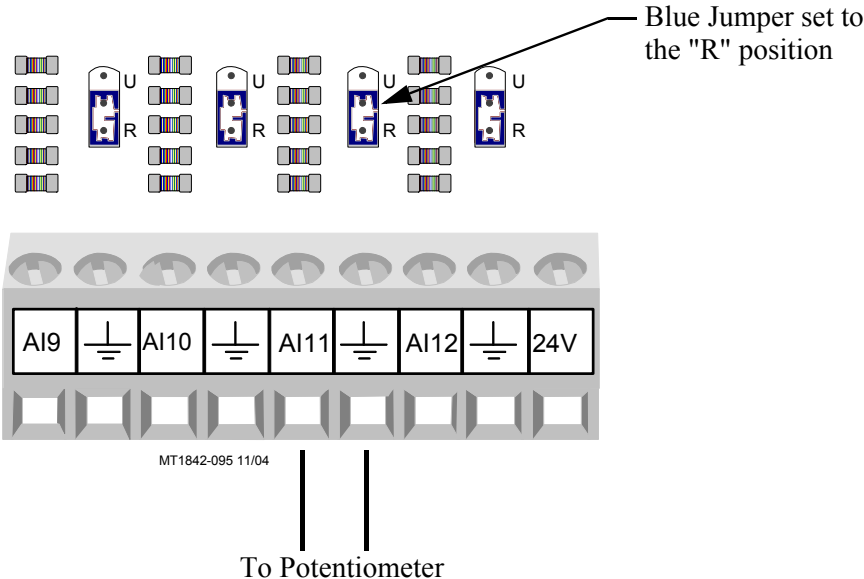

Figure 89. Potentiometer Wiring
If natural ventilation is being used, the Potentiometer(s) that are attached to either the main curtain machine(s) (Internal Potentiometer), or the main curtain cables (External Potentiometer) need to be wired to the Chore-Tronics® 2 I/O Board. The Potentiometers need to be connected using the same Twisted Pair Wire that is used for the Temperature Sensors and follows the same wiring rules. Each Potentiometer needs to be wired to one of the Analog Input (AI) Terminals on the IO board. Make sure that whichever AI Input the Potentiometer is connected to that the Blue Jumper above the Input is set to "R" (See Figure 89). To connect the sensor wire to the Potentiometer itself, please see Chore-Time instruction manual MV1251 for internal Potentiometer wiring, or MV1566 for external Potentiometer wiring.